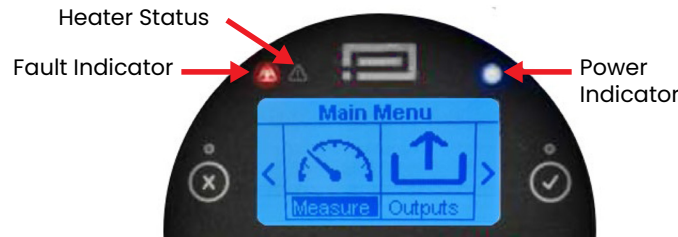

Figure 11: Indicator Lights
4. **Error Code:** Indicates an active error by displaying the corresponding error code. Refer to Appendix C for the list of error codes. When an error is indicated, the fault indicator light (see *Figure 11*) blinks to alert the user.